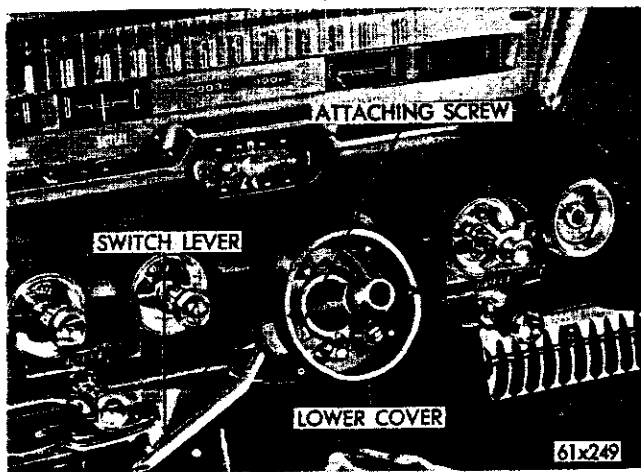
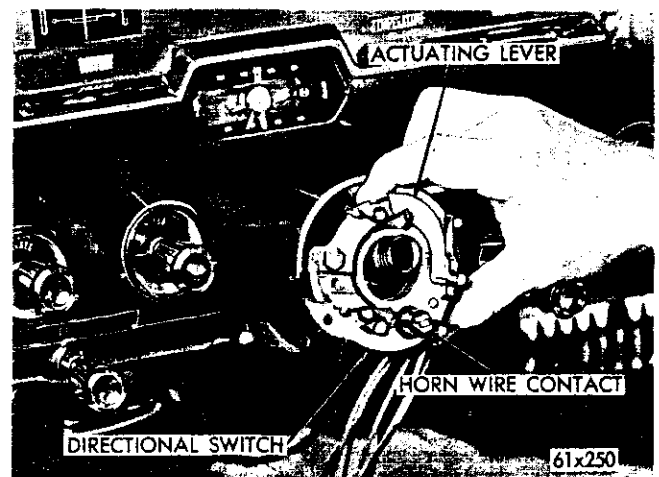

Fig. 128—Directional Switch and Lever—
Fig. 129—Removing the Directional Switch
(7) Remove the directional switch lever (Fig. 128).
(8) Remove the steering column lower cover.
(9) Remove the two screws and disconnect the switch wires at the connection and remove the directional switch and wires (Fig. 129).